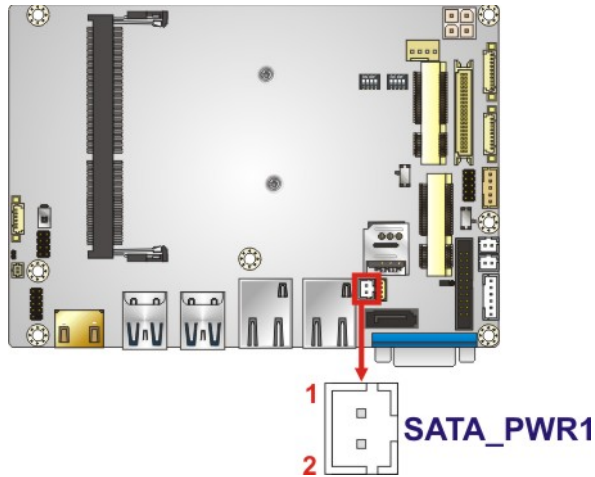

Figure 3-3: 5 V SATA Power Connector Location
- CN Location:** See **Figure 3-3**